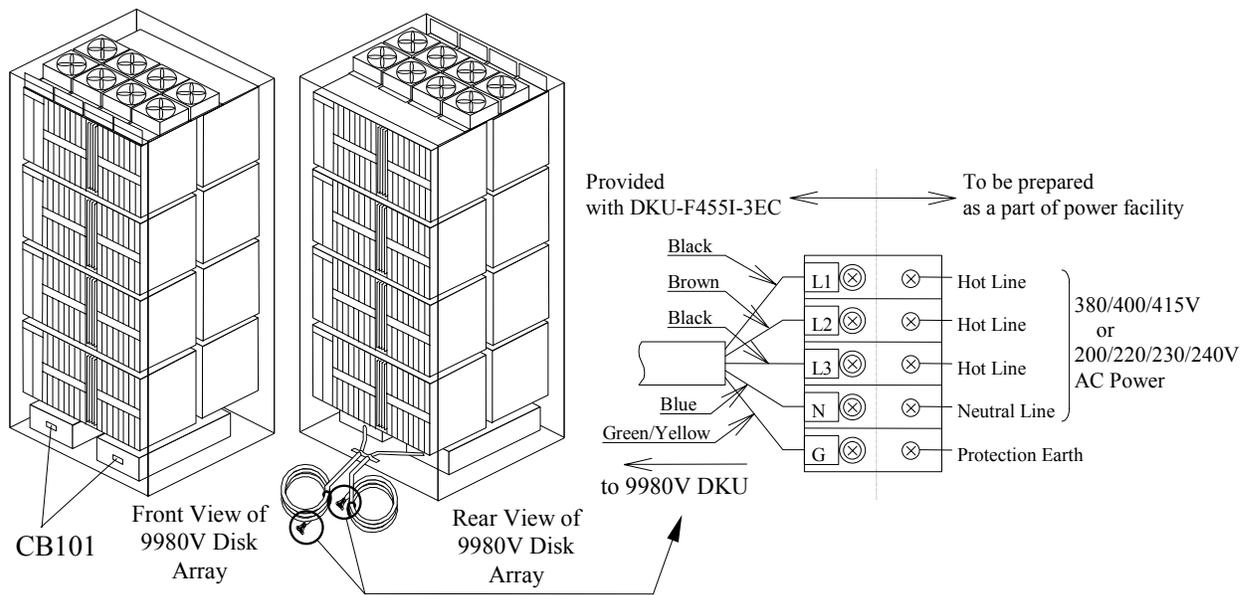

Figure 5.10 Power Plugs for Three-Phase 9980V Disk Array Unit (Europe)
- Figure 5.10 illustrates the power plugs for a three-phase 9980V disk array unit (Europe).